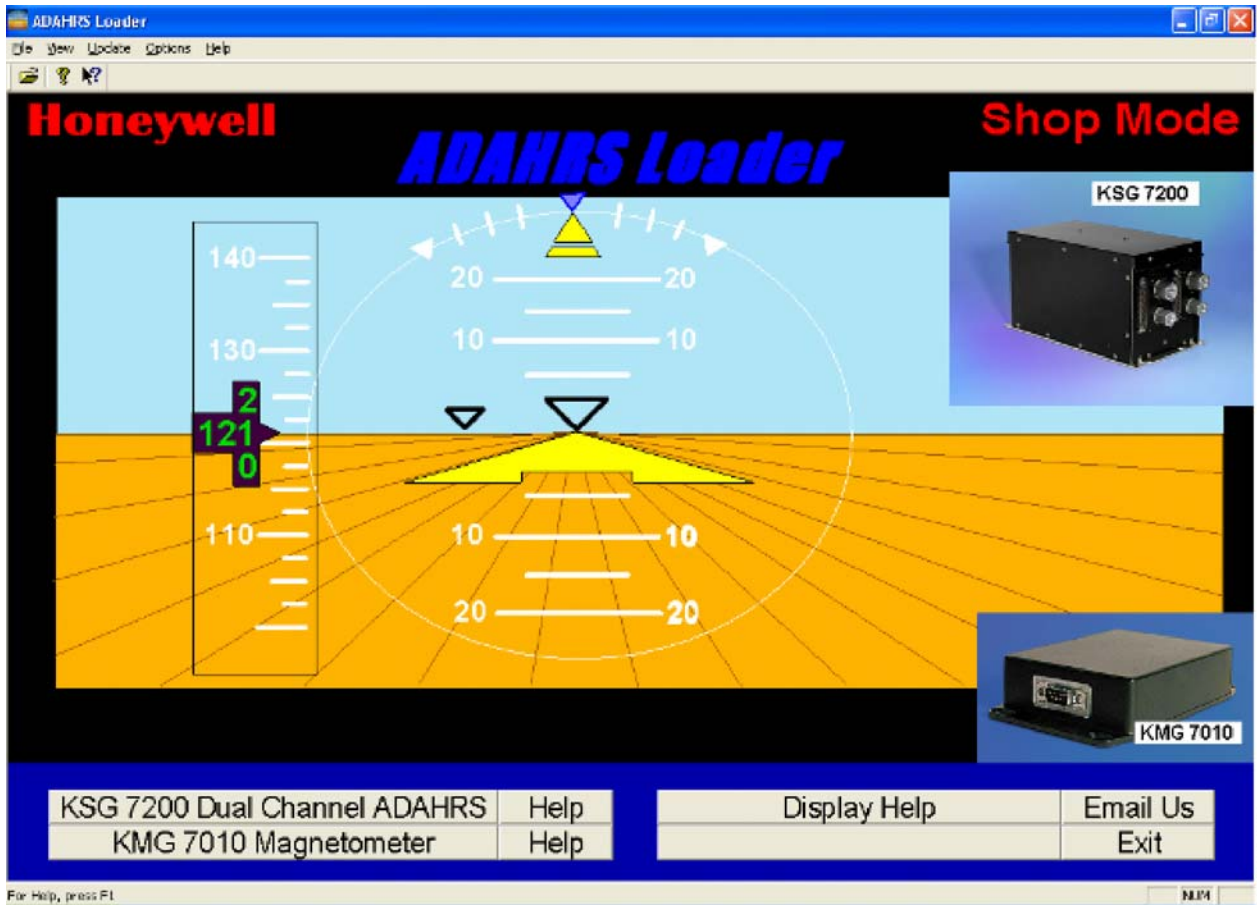

Figure 10. (Sheet 1 of 1) ADAHRS Loader Window
- (9) After reading the message, click the Close button to proceed to the ADAHRS Loader program. Refer to Figure 10.
- (17) Click the OK button to return to the ADAHRS Loader program. Refer to Figure 10.
- (4) Once the message is read, click the Close button to launch the ADAHRS Loader program. Refer to Figure 10.
- (11) OK to return to the ADAHRS Loader program. Refer to Figure 10.